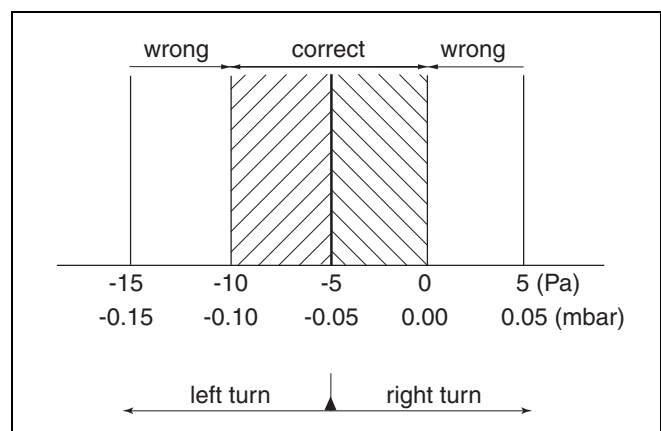

fig. 47 Pressure difference at gas/air at "L25"
- The optimum gas/air ratio is - 5 Pa (-0.05 mbar). The pressure difference should be between -10 and 0 Pa (→ fig. 47).
- Adjust the adjustment screw of the burner pressure to the correct gas/air ratio using a (4 mm) socket head wrench and by referring to fig. 47.